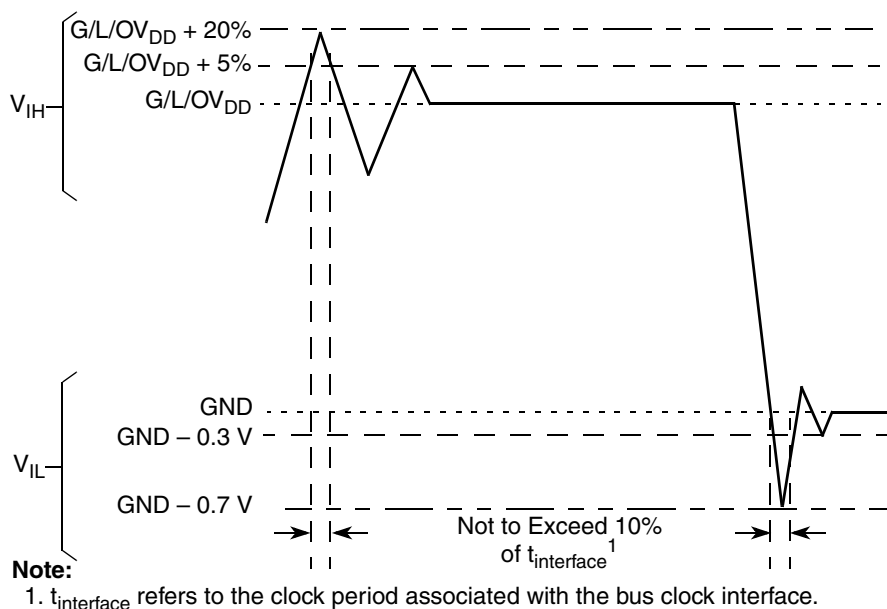

Figure 2. Overshoot/Undershoot Voltage for GV_{DD}/OV_{DD}/LV_{DD}
- ⁵ (M,L,O) V_{IN} and MV_{REF} may overshoot/undershoot to a voltage and for a maximum duration as shown in Figure 2.
Figure 2 shows the undershoot and overshoot voltages at the interfaces of the MPC8349EA.